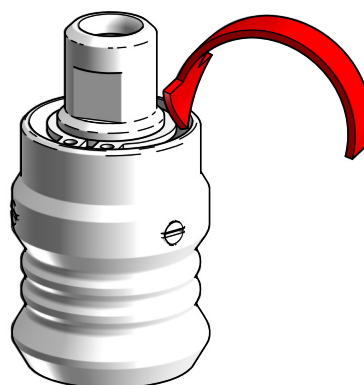

Fig. 11: Dripping solvent into the coupling
- If the sleeve of the coupling is jammed, you can try dripping some Ethanol between the sleeve and the rest of the coupling (see Fig. 11). Don't use any other solvents; some models of the coupling have an NBR O-ring inside that might get damaged. Then move the sleeve up and down until it runs smoothly. Dry the coupling with a lint-free cloth.